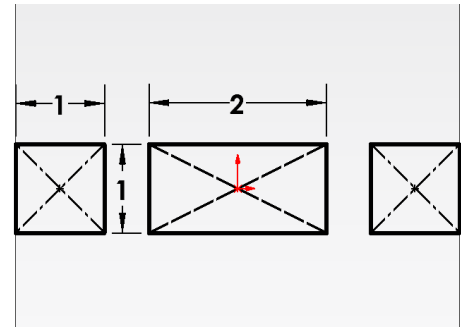

Fig. 13
Step 14. Click **Mirror Entities**  **Mirror Entities** on the Sketch toolbar, **Fig. 13**.